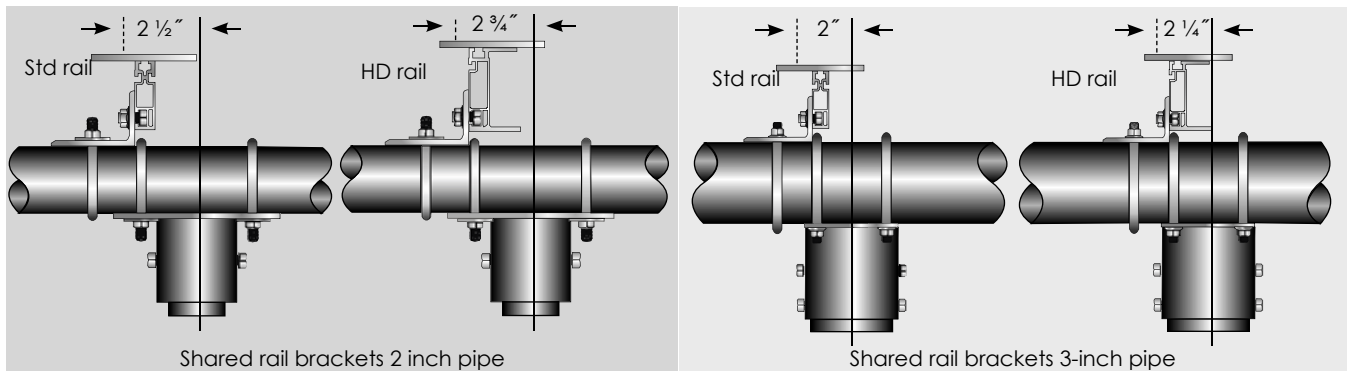

**Figure 4.**
**If you are using bottom mounting clips or junction plates, there is a small chance that a conflict will require you to deviate slightly from the listed average leg spacing.** Make a scale drawing to identify potential component conflicts (see Fig. 3 or Fig. 4). If one occurs, use one or more of these solutions: